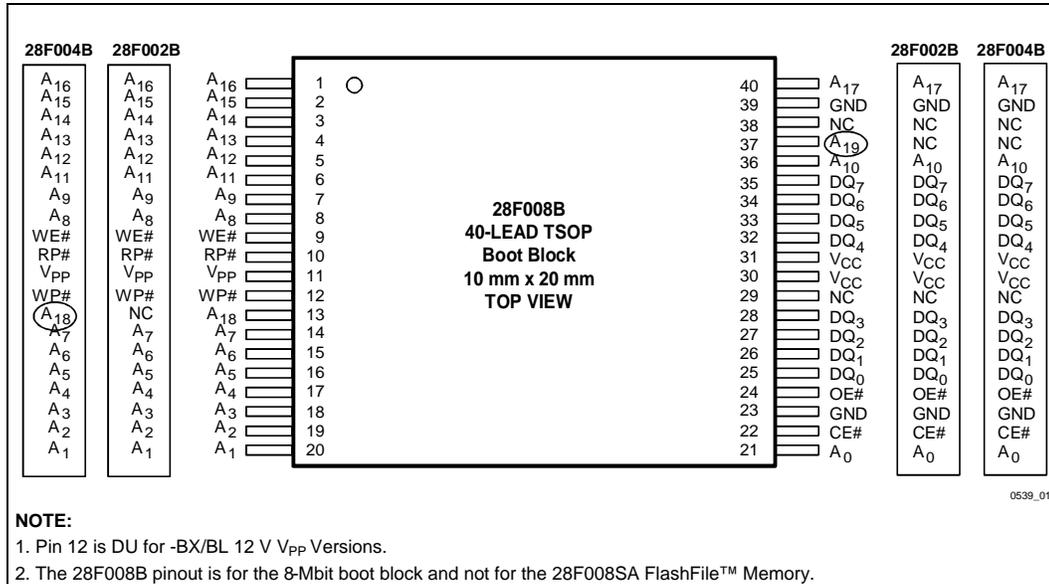
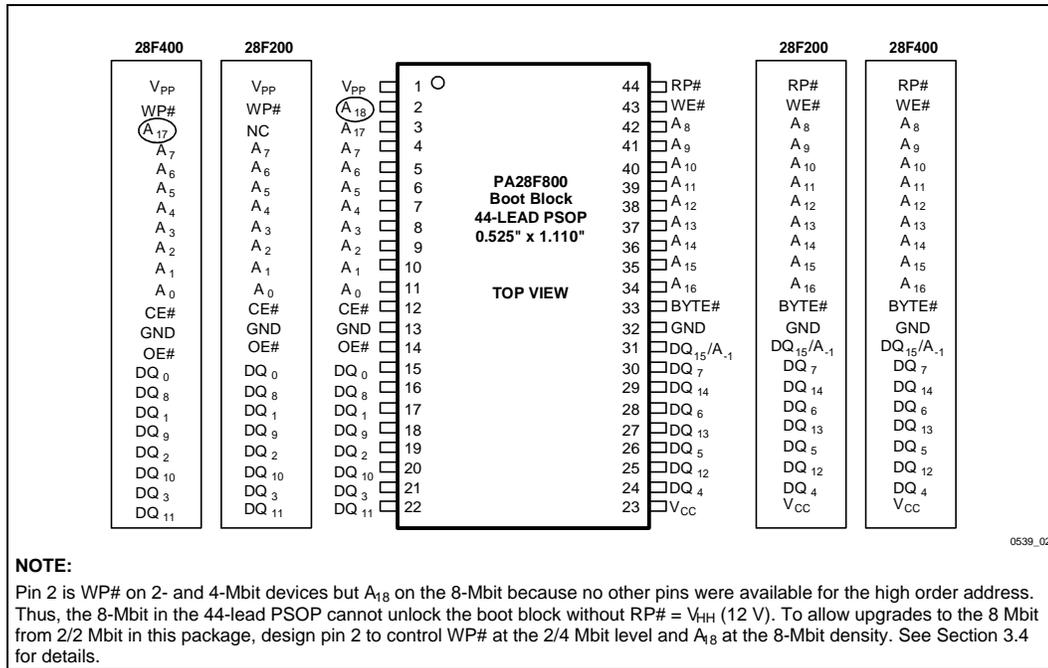
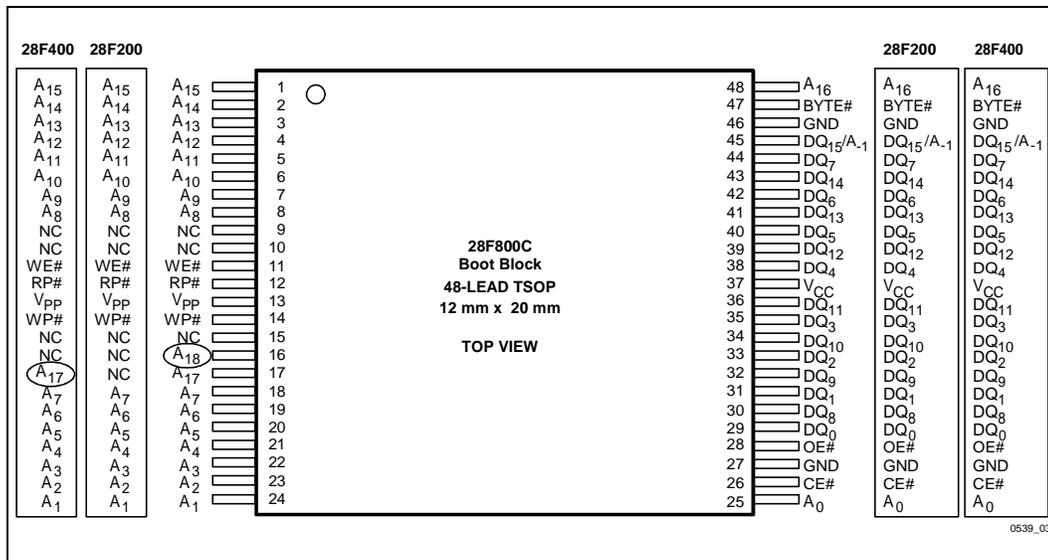

Figure 1. The 40-Lead TSOP Offers the Smallest Form Factor for Space-Constrained Applications
Figure 2. The 44-Lead PSOP Offers a Convenient Upgrade from JEDEC ROM Standards
Figure 3. The 48-Lead TSOP Offers the Smallest Form Factor for x16 Operation
- WP# pin has replaced DU (Don’t Use) pin #12 in the 40-lead TSOP package. In the 44-lead PSOP, DU pin #2 is replaced with A18 (see Figure 1 and Section 3.4 for details). Connect the WP# pin to control signal or to  $V_{CC}$  or GND (in this case, a logic-level signal can be placed on DU pin #12 for 40-lead TSOP). See Tables 2 and 9 to see how the WP# pin works.
To upgrade from lower density SmartVoltage boot block products, the similar pinouts in the 40-lead and 48-lead TSOP packages provide easy upgrades by adding extra address lines (see Figures 1 and 3). In the 44-lead TSOP, the WP# pin on the 2-Mbit and 4-Mbit BV parts becomes A18, removing the capability to unlock the boot block with a logic-level signal in this package **only**. The boot block can still be unlocked with 12 V on RP# (see Figure 2 and Section 3.4 for details).
The 28F800 products are available in the 44-lead PSOP (Plastic Small Outline) package (a ROM/EPROM-compatible pinout) and the 48-lead TSOP (Thin Small Outline, 1.2 mm thick) package as shown in Figures 2, and 3, respectively. The 28F800 is not available in 56-lead TSOP. The 28F008B products are available in the 40-lead TSOP package as shown in Figure 1.
The 28F008B 40-lead TSOP pinout for space-constrained designs is shown in Figure 1. For designs that require x16 operation but have space concerns, refer to the 48-lead pinout in Figure 3. The 28F800 44-lead PSOP pinout follows the industry-standard ROM/EPROM pinout, as shown in Figure 2.